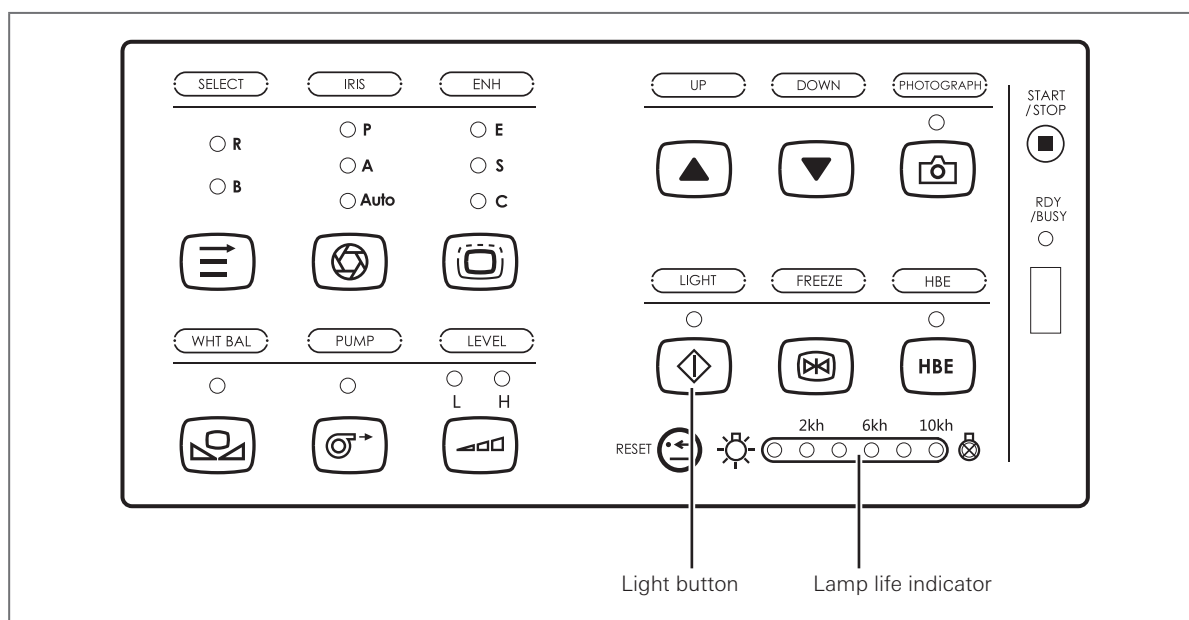

Figure 4.1
1. Press the light button to turn ON the lamp (see Figure 4.1).